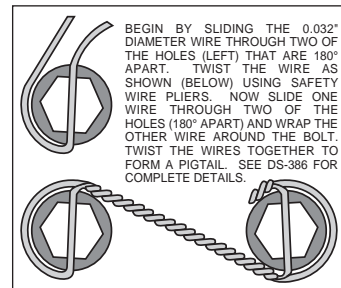

Figure 3. Safety Wire Diagram
- The hat/rotor assembly (6) has been pre-assembled at the factory using red *Loctite*® 271 on the mounting bolts and torqued to specification. For an added measure of security, the bolts may be safety wired using standard 0.032 inch diameter stainless steel safety wire as shown in Figure 3. Please refer to Wilwood's data sheet DS-386 (available at [www.wilwood.com/Pdf/DataSheets/ds386.pdf](http://www.wilwood.com/Pdf/DataSheets/ds386.pdf)) for complete safety wire installation instructions.